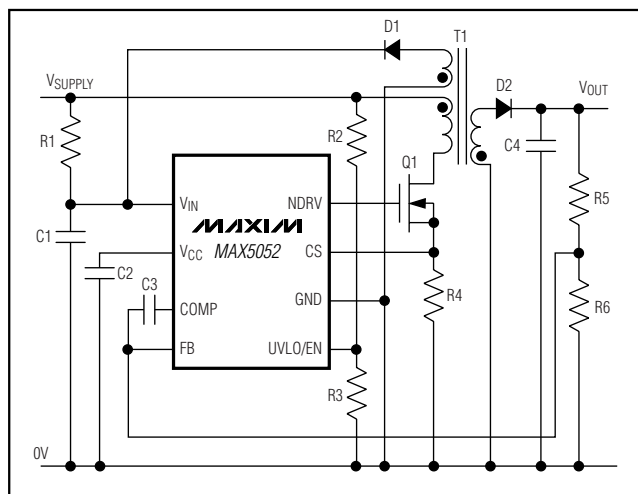
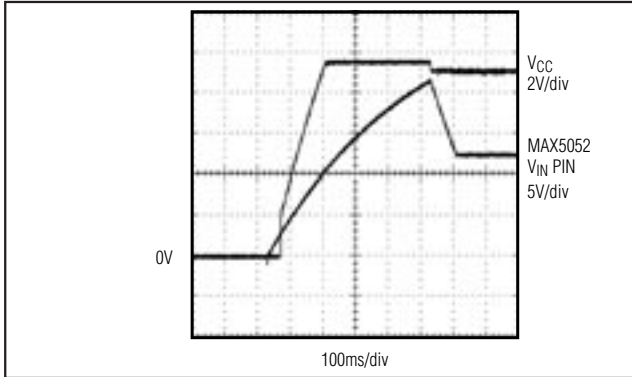

Figure 1. Nonisolated Power Supply with Programmable Input-Supply Start Voltage
Figure 2.  $V_{IN}$  and  $V_{CC}$  During Startup when Using the MAX5052 in Bootstrapped Mode (Figure 1)
**Note 3:** The MAX5052 is intended for use in universal input power supplies. The internal clamp circuit is used to prevent the bootstrap capacitor (C1 in Figure 1) from charging to a voltage beyond the absolute maximum rating of the device when EN/UVLO is low. The maximum current to  $V_{IN}$  (hence to clamp) when UVLO is low (device in shutdown) must be externally limited to 2mA, max. Clamp currents higher than 2mA may result in clamp voltage higher than 30V, thus exceeding the absolute maximum rating for  $V_{IN}$ . For the MAX5053, do not exceed the 24V maximum operating voltage of the device.
Power supplies designed with the MAX5052 use a high-value startup resistor, R1, that charges a reservoir capacitor, C1 (see Figure 1). During this initial period, while the voltage is less than the internal bootstrap UVLO threshold, the device typically consumes only 45μA of quiescent current. This low startup current and the large bootstrap UVLO hysteresis helps to minimize
Use this UVLO function to program the input-supply start voltage. For example, a reasonable start voltage for a 36V to 72V telecom range might be set at 34V. Calculate the divider resistor values, R2 and R3 (see Figure 1) by using the following formulas:
Normally  $V_{IN}$  is derived from a tertiary winding of the transformer. However, at startup there is no energy delivered through the transformer, hence, a special bootstrap sequence is required. Figure 2 shows the voltages on  $V_{IN}$  and  $V_{CC}$  during startup. Initially, both  $V_{IN}$  and  $V_{CC}$  are 0V. After the line voltage is applied, C1 charges through the startup resistor, R1, to an intermediate voltage. At this point, the internal regulator begins charging C2 (see Figure 1). The MAX5052 uses only 45μA of the current supplied by R1, and the remaining input current charges C1 and C2. The charging of C2 stops when the  $V_{CC}$  voltage reaches approximately 9.5V, while the voltage across C1 continues rising until it reaches the wake-up level of 21.6V. Once  $V_{IN}$  exceeds the bootstrap UVLO threshold, NDRV begins switching the MOSFET and transfers energy to the secondary and tertiary outputs. If the voltage on the tertiary output builds to higher than 9.9V (the bootstrap UVLO lower threshold), then startup has been accomplished and sustained operation commences.
The  $V_{IN}$  bypass capacitor,  $C1$ , supplies current immediately after wake up (see Figure 1). The size of  $C1$  and the connection configuration of the tertiary winding determine the number of cycles available for startup. Large values of  $C1$  increase the startup time but also supply gate charge for more cycles during initial start-up. If the value of  $C1$  is too small,  $V_{IN}$  drops below 9.9V because NDRV does not have enough time to switch and build up sufficient voltage across the tertiary output which powers the device. The device goes back into UVLO and does not start. Use a low-leakage capacitor for  $C1$  and  $C2$ .
The above startup method is applicable to a circuit similar to the one shown in Figure 1. In this circuit, the tertiary winding has the same phase as the output windings. Thus, the voltage on the tertiary winding at any given time is proportional to the output voltage and goes through the same soft-start period as the output voltage. The minimum discharge voltage of  $C1$  from 22V to 10V must be greater than the soft-start time of 60ms.
The MAX5052/MAX5053 include an internal error amplifier that can be used to regulate the output voltage in the case of a nonisolated power supply (see Figure 1). Calculate the output voltage using the following equation: